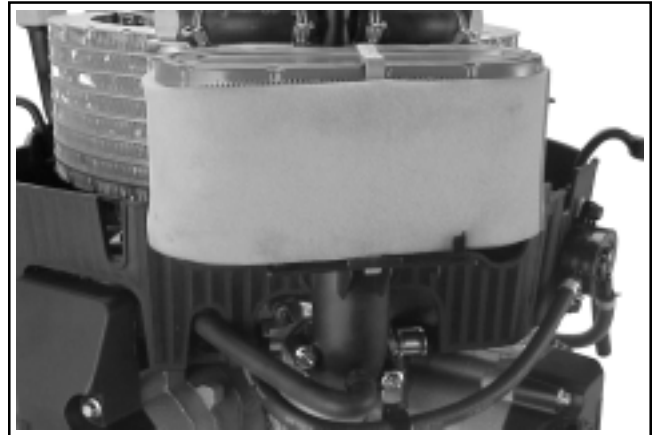

Figure 11-101. Completed Installation of Air Cleaner Parts.
4. Install the air cleaner element onto the base and secure in place with the retainer strap. See Figure 11-101.
5. Install the serviced precleaner around the air cleaner element, **outside** of the retainer. Completed installation is shown in Figure 11-101.